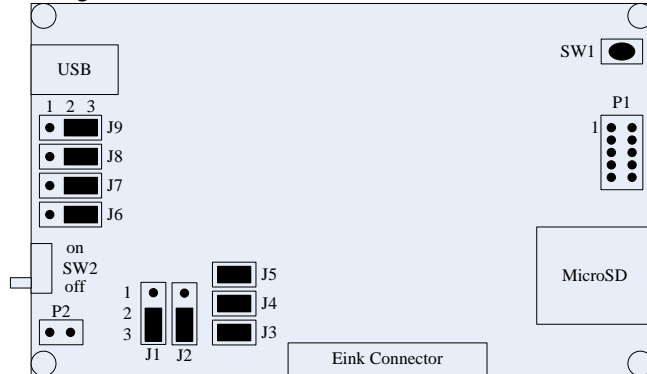

Figure 29. Correct Jumper Positions for Virtual Com
6. Disconnect USB cable, configure the jumpers as shown in Figure 29 for virtual COM.
- It is recommended to power development board through USB as described in Figure 29 when evaluating ADXL362 DB GUI. For data logger, it is recommended to use high capacity AAA batteries or lithium thin cell to power the development board, and thus it integrates seamlessly into portable applications as shown in Figure 40.
- USB, all kinds of functions can be supported by USB supply. When using USB supply, please make sure the jumper J2 is at 2-3 position as shown in Figure 29 (There are notes on PCB board). There is a 3V LDO ADP3338 on the board which will switch 5V input to 3V for the following circuits.